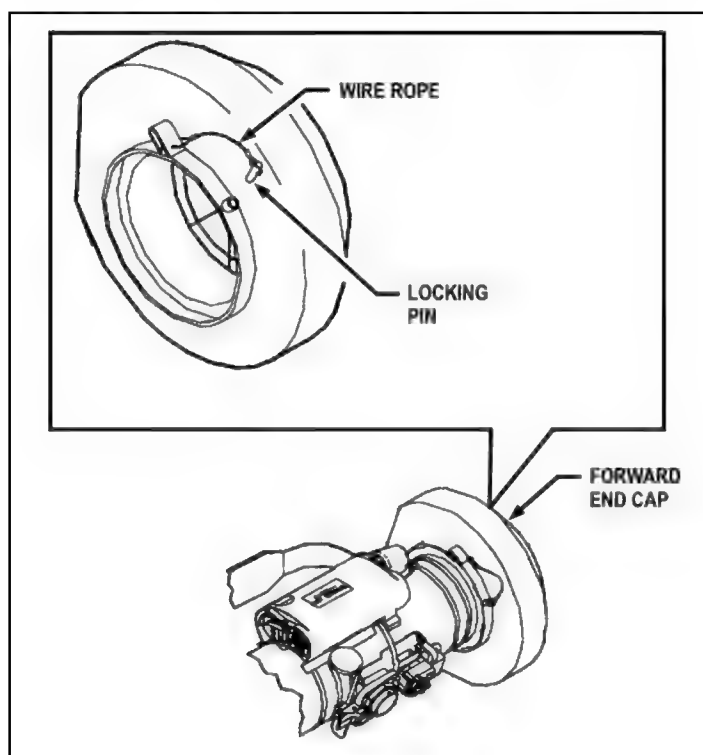

Figure 2-21. Remove the forward end cap.
f. **Remove the Forward End Cap** (Figure 2-21).
(1) Remove the locking pin from the forward end cap by pulling straight up on the wire rope.
(2) Using the left hand, turn the forward end cap latch release counterclockwise.
(3) Grasp the handgrip with the right hand and lift the front end of the Javelin enough to raise the forward end cap off the ground.
(4) Slide the forward end cap off the round. If the forward end cap does not come off press the manual release button until the hissing stops. Set the open end of the round on the forward end cap to prevent dirt and debris from obstructing the seeker. When the